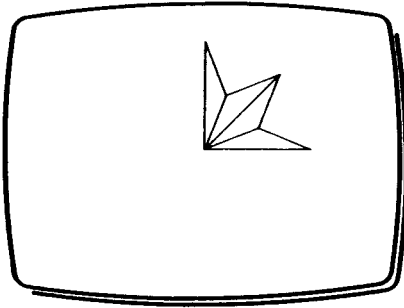

Fig 1
- 3 Draw the shape shown in Fig 1.